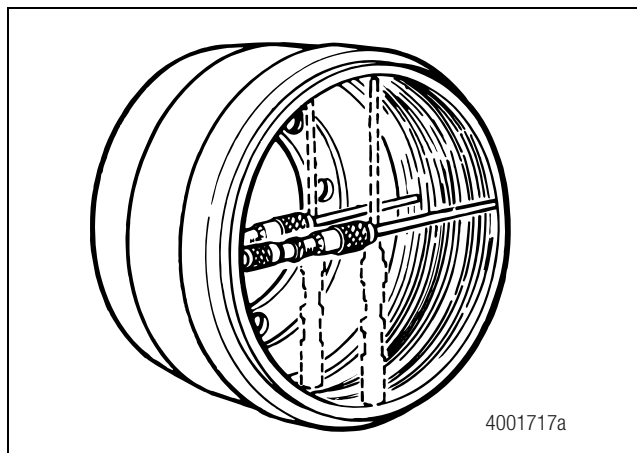

Figure 6.17
- If any of these measurements are **0.120-inch (3.048 mm) over nominal diameter**: Replace the brake drum. Figure 6.17.